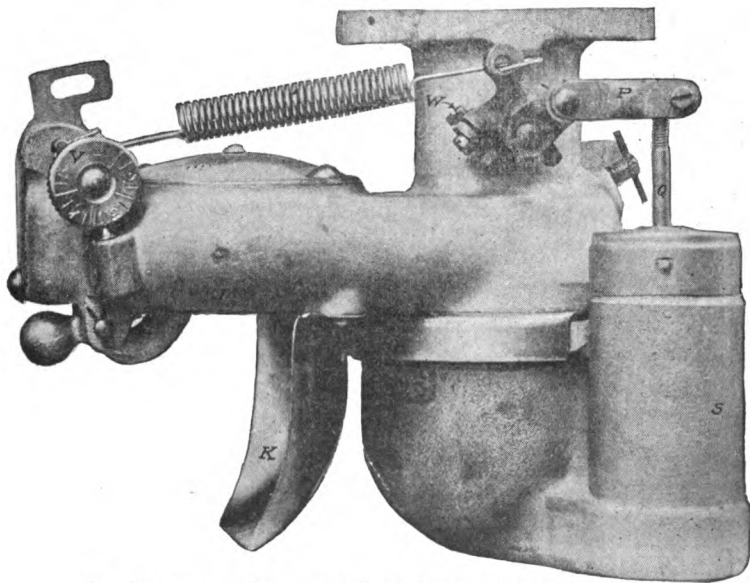

Fig. 125. Exterior View of Cadillac Carburetor, Showing Adjustments
*Adjustments.* Carburetors are factory set and should need no adjustment ordinarily, but for different atmospheric conditions a slight change in the air-valve spring may be needed. In the exterior view, Fig. 125, this is altered by turning the screw *V*. In case the carburetor really needs adjustment, proceed as follows: Open the throttle lever on the steering wheel about two inches, place the spark in the driving range and start the motor; run it until the water jacket
**Holley Type.** A firm, the Holley Company, which has devoted much time and study to this problem, has developed the device shown in Fig. 125. While this is not offered as perfect, even by its maker, who is still working on this problem, it has been found to do these things: cut the fuel cost over 50 per cent; increase the power 5 to 8 per cent; save almost one-half of the engine lubricant; give less spark-plug trouble and